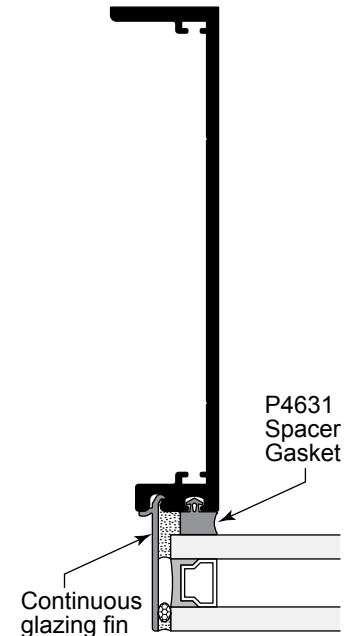

Fig. 36.3
- H. Seal around edges of glass. At glazing fins on the female vertical mullions, seal the back (interior) edges of the glass. Apply a secondary seal between the end of the fin and glass edge. See **Fig. 36.3**.